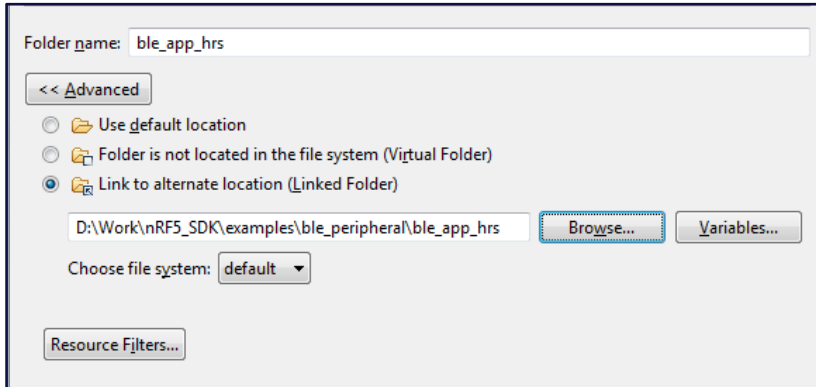

Figure 19: Adding files and folders to the project
8. Select **Link to alternate location (Linked Folder)** and browse to the location of the hrs project, e.g.: `D:\Work\hRF5_SDK\examples\ble_peripheral\ble_app_hrs` (Figure 19).